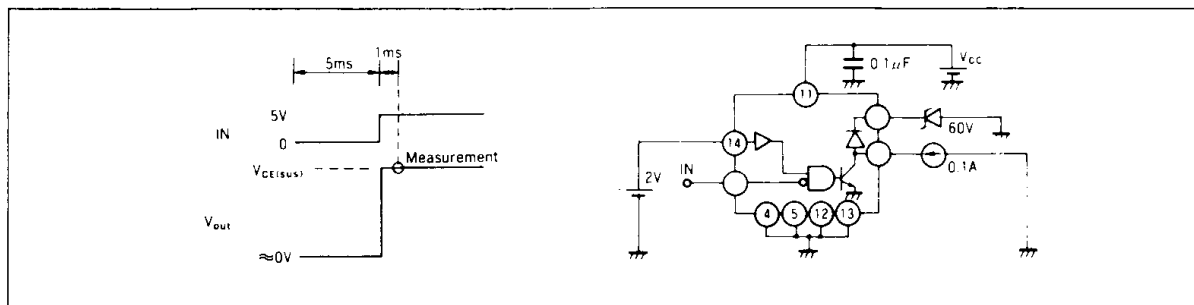

Figure 1 VCE(sus) Measurement Circuit
- See figure 1 for measurement.